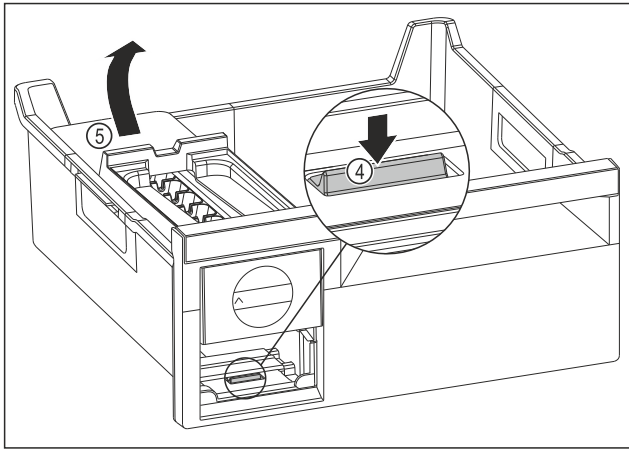

Fig. 172
- ▶ Removing the EasyTwist-Ice body: Use your finger to push the tab Fig. 172 (4) down and use your other hand to lift the EasyTwist-Ice body Fig. 172 (5) from behind at the same time.